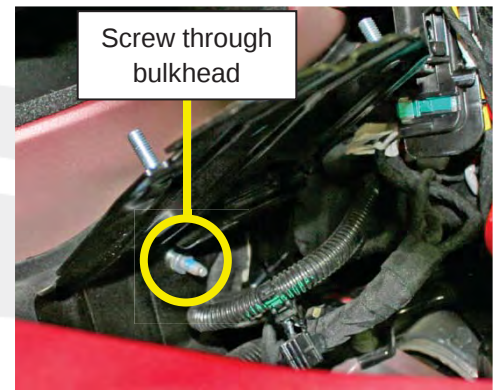

Figure 13
- If the bracket is secured to the bulkhead by a nut and a screw (Figure 13), continue to the next step in this procedure.